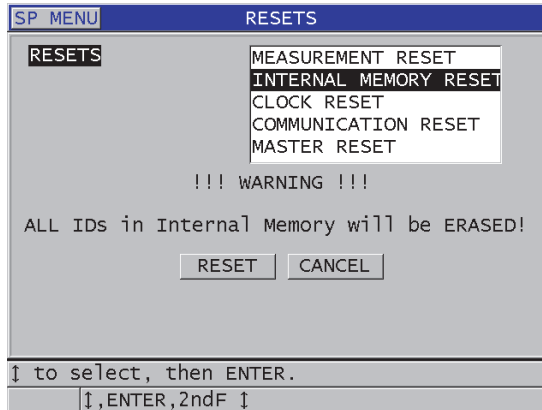

Figure 11-22 Warning message when resetting measurements
3. In the **RESETS** screen (see Figure 11-22 on page 211):